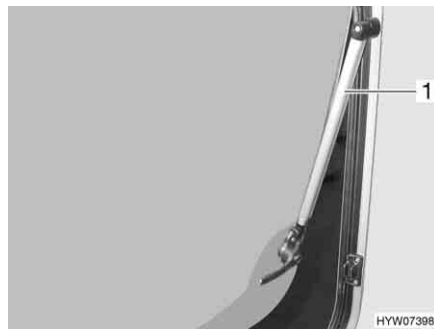

Fig. 99 Hinged window with automatic hinges
- Open the hinged window to the desired latched position. The automatic hinge (Fig. 99, 1) locks in place automatically.